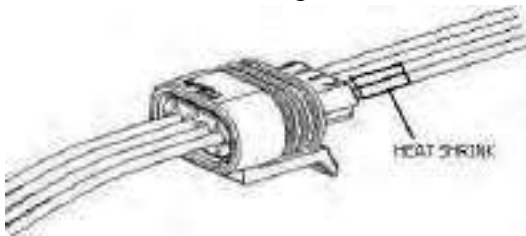

Figure 55
- d. Push all wires through cable seal and out the other side of the connector as shown in Figure 55.
- f. For A011-P, A039-P and A043-P only, install M23053/5-104-0 heat shrink over each wire and position at the face of the connector as shown in Figure 55. Do not shrink it in this step.